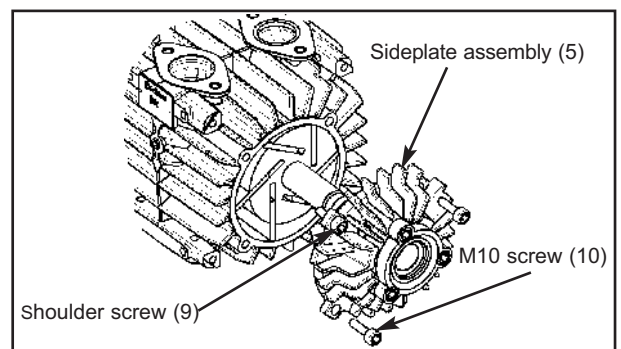

Figure 13
4. Remove the fan (11). Inspect the split sleeve and fan for damage and replace as necessary.
5. Remove the three M10 sideplate cap screws (7) and the M8 sideplate shoulder screw (9) ; See figure 13.